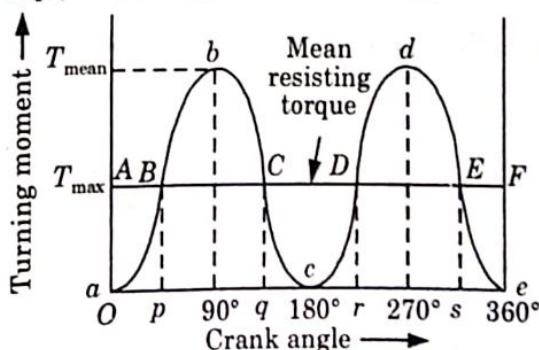

Fig. 3.18.1. Turning moment diagram for a single cylinder, double acting steam engine.
2. From the Fig. 3.18.1, we see when the crank moves from a to p , the work done by the engine is equal to area aBp , but the energy required is represented by the area $aABp$. It means energy requirement is more than the work done by the engine.